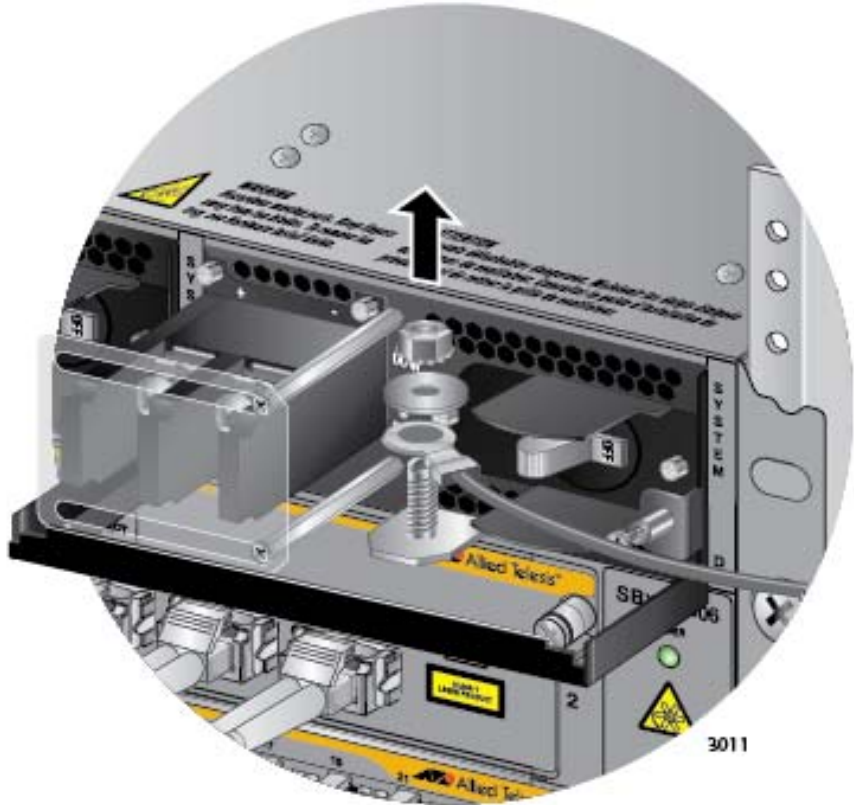

Figure 166. Removing the Grounding Wire
9. Use an 8 mm wrench to remove the grounding wire from the grounding post. Refer to Figure 166 on page 265.